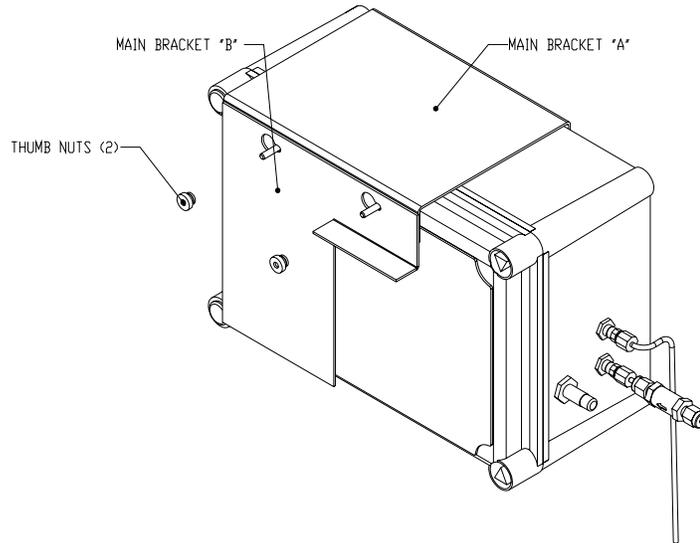

Figure 5
1. Refer to Figure 5. Install Main Bracket A on top of the 5000TOCe Sensor.